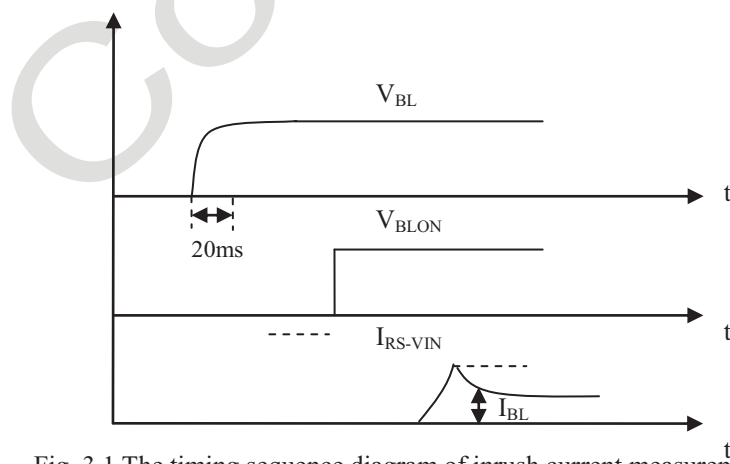

Fig. 3.1 The timing sequence diagram of inrush current measurement
- (1) Dimming ratio = 100% (Max.) ( $T_A = 25 \pm 5 \text{ }^\circ\text{C}$ , Turn on for 45minutes).
- (2) The measurement condition:  $V_{BL}$  rising time is 20 ms. ( $V_{BL}$  from 10% ~ 90%), the sequence diagram is shown as Fig.3.1.
- (3) 5% ~10%minimum duty ratio is only valid for electrical operation.
- (4) Normal: 0 ~ 0.8V; Abnormal: Open collector.